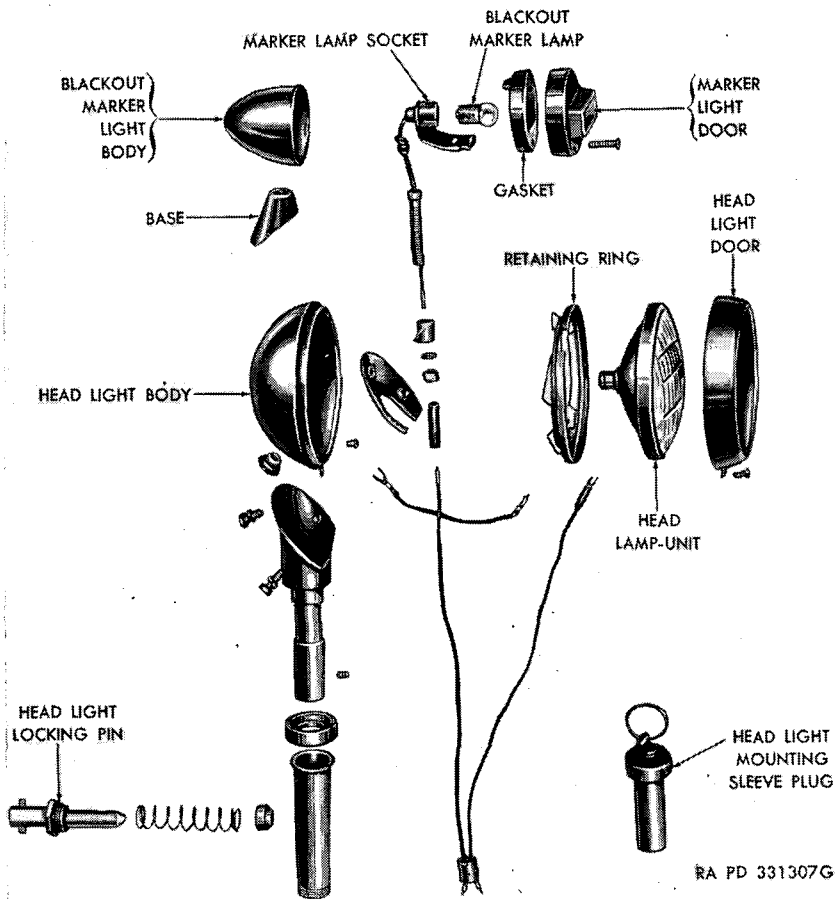

Figure 97. Head light assembly—exploded view.
b. **REMOVAL OF COMPLETE HEAD LIGHT (fig. 97).** To remove the head lights, turn head light retainer inside hull to the left to loosen. Back off knurled nut on lighting conduit. Remove conduit from head light assembly. Lift assembly out of mounting.
c. **INSTALLATION OF COMPLETE HEAD LIGHT (fig. 97).** See that light switch on instrument panel is "OFF." Place head light in position on hull front plate. Secure in position by turning head light retainer. Place lighting conduit in position and tighten knurled nut securely.
d. **REMOVAL OF HEAD LIGHT SEALED LAMP-UNIT.** Remove screw holding head light door to head light body (fig. 97). Swing lower end of door outward and lift door from body. Pull sealed lamp-unit assembly outward until terminal screws holding cables to sealed lamp-unit assembly can be removed. Disconnect cables and remove sealed lamp-unit assembly.